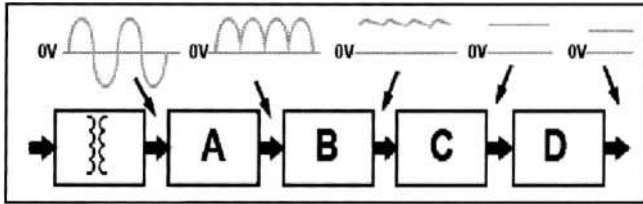

Figure 7.17
1. Refer to Fig 7.17. below. What is the function of block B?